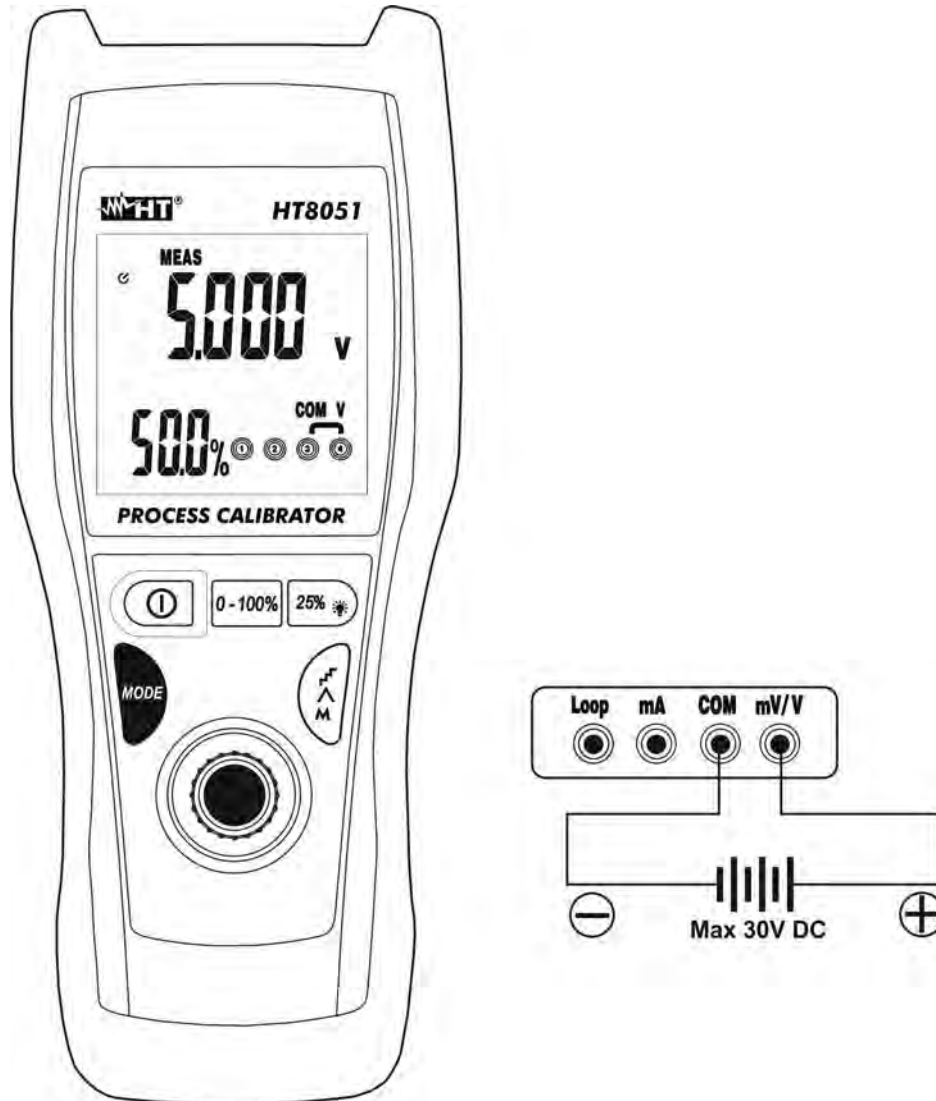

Fig. 3: DC voltage measurement
3. Position the green lead and the black lead respectively in the points with positive and negative potential of the circuit to be measured (see Fig. 3). The value of voltage is shown on the main display and the percentage value with respect to the full scale on the secondary display
4. The message "**-OL-**" indicates that the voltage being measured exceeds the maximum value measurable by the instrument. The instrument do not perform voltage measurements with opposite polarity respect to the connection in Fig. 3. The value "0.000" is shown at display